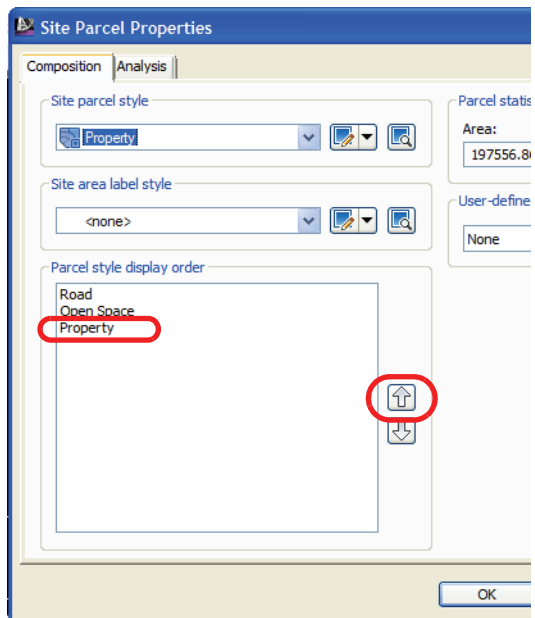

Figure 2–19
11. In the Site Parcel Properties dialog box, select **Property** in the *Parcel style display order* area, as shown in Figure 2–19.